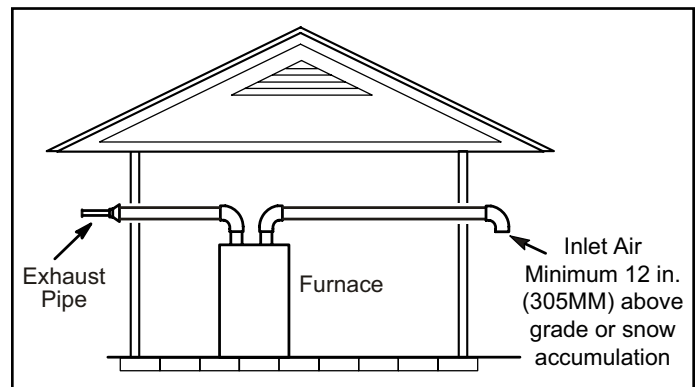

Figure 26. Exiting Exhaust and Intake Vent (no common pressure zone)
1. Intake and exhaust terminations are not required to be in the same pressure zone. You may exit the intake on one side of the structure and the exhaust on another side (Figure 26). You may exit the exhaust out the roof and the intake out the side of the structure (Figure 27).